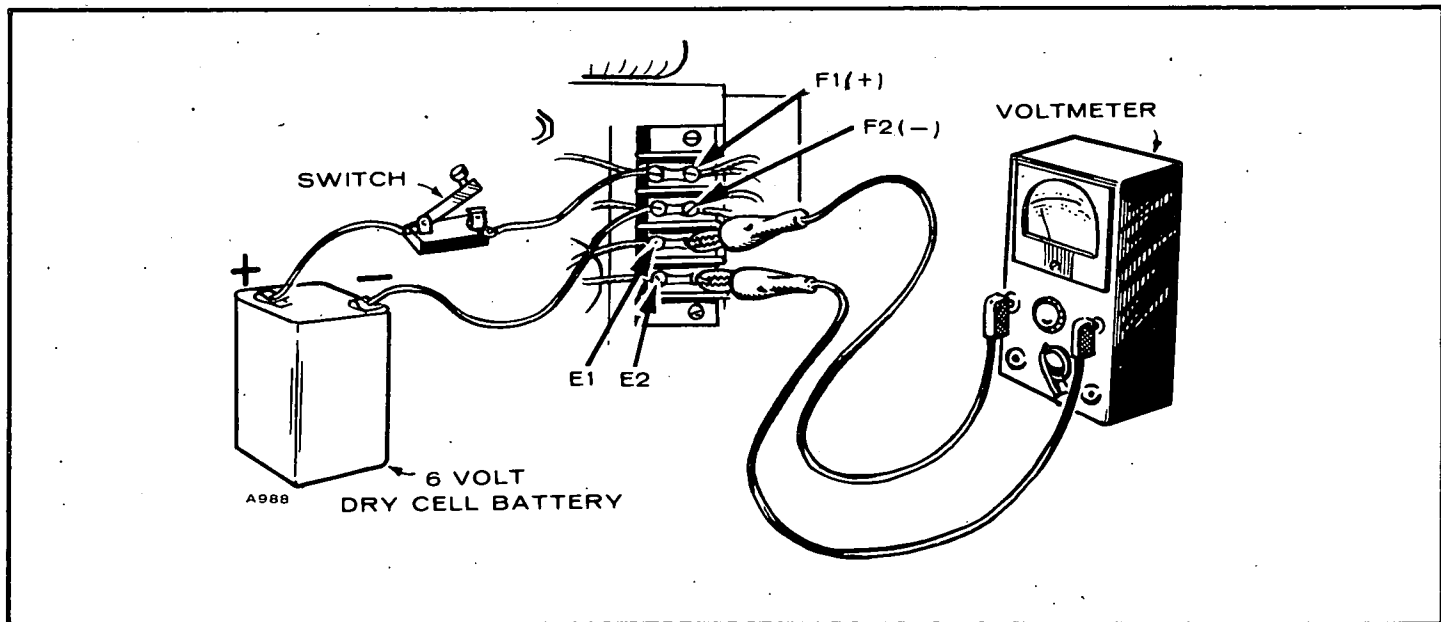

FIGURE 11. FLASHING THE FIELD
1. Using a 6 volt dry cell battery, connect leads as shown in Figure 11 (positive to F1 and negative to F2).